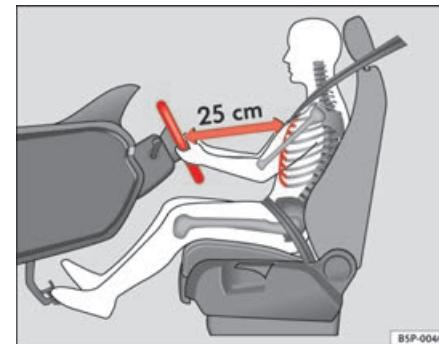

Fig. 98 Proper sitting position for driver
- Adjust the steering wheel in this way until the correct position is set ⇒ fig. 98.
- Adjust the driver seat or steering wheel so that there is a distance of at least 25 cm between the steering wheel and your chest **⇒ page 130, fig. 98.** If you fail to observe the minimum distance, the airbag will not protect you. Risk of fatal injury.